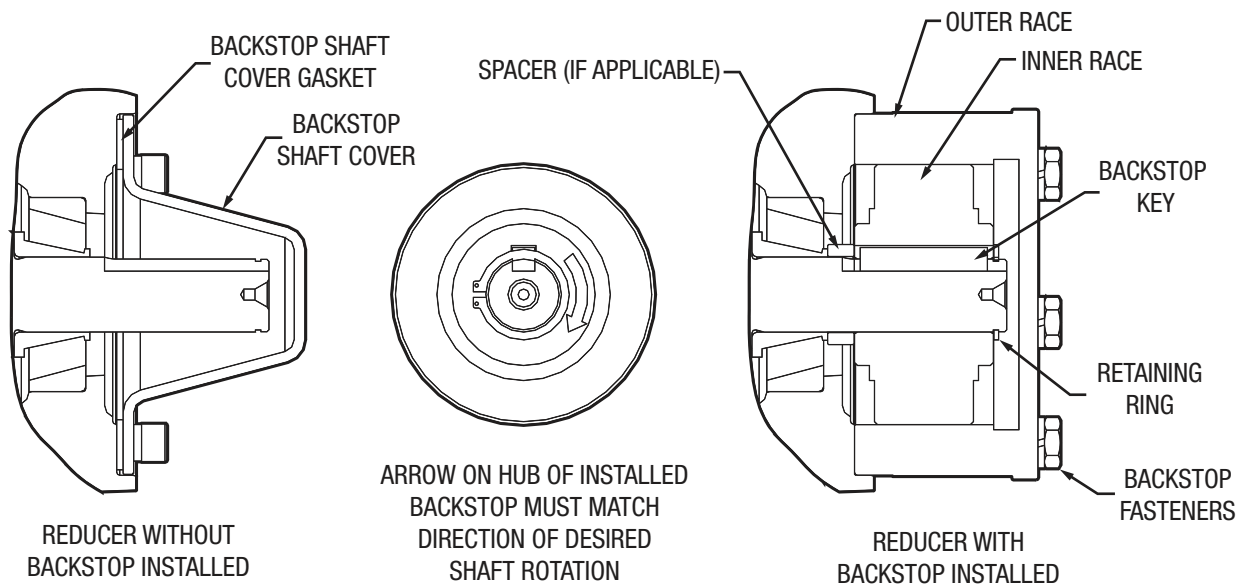

Figure 10 - Backstop Assembly
1. Remove backstop shaft cover and gasket, shown in Figure 10. These parts will not be reused. This cover is directly opposite the extended end of the input shaft.